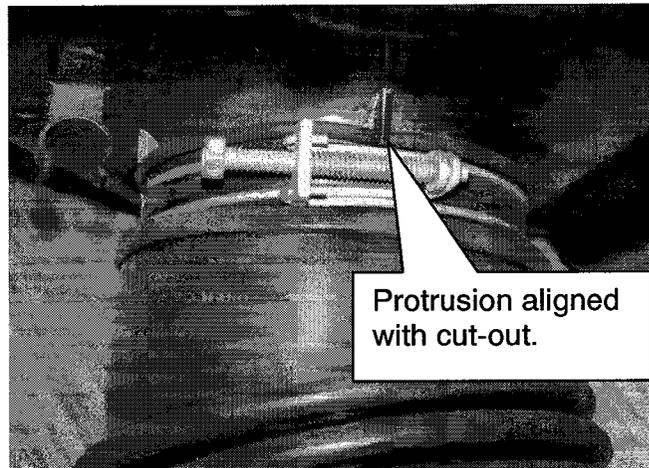

Figure 6
- a. Position each wire clamp near the protrusion / cut out (see Figure 6).